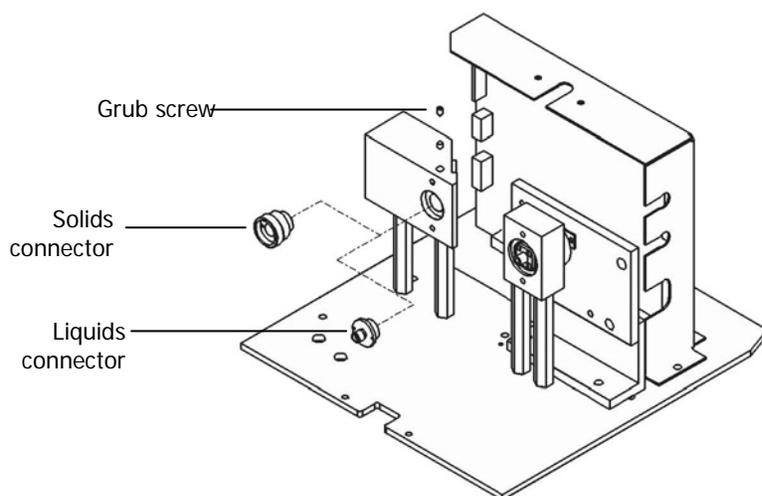

Figure 4 Replacing the connectors
In order to use the probe for which the Fiber Optic Interface Sampling Accessory is not currently configured, the connector (shown in Figure 4) must be changed using the procedure described below.
1. Loosen the grub screw shown in Figure 4 using the hexagonal wrench supplied.